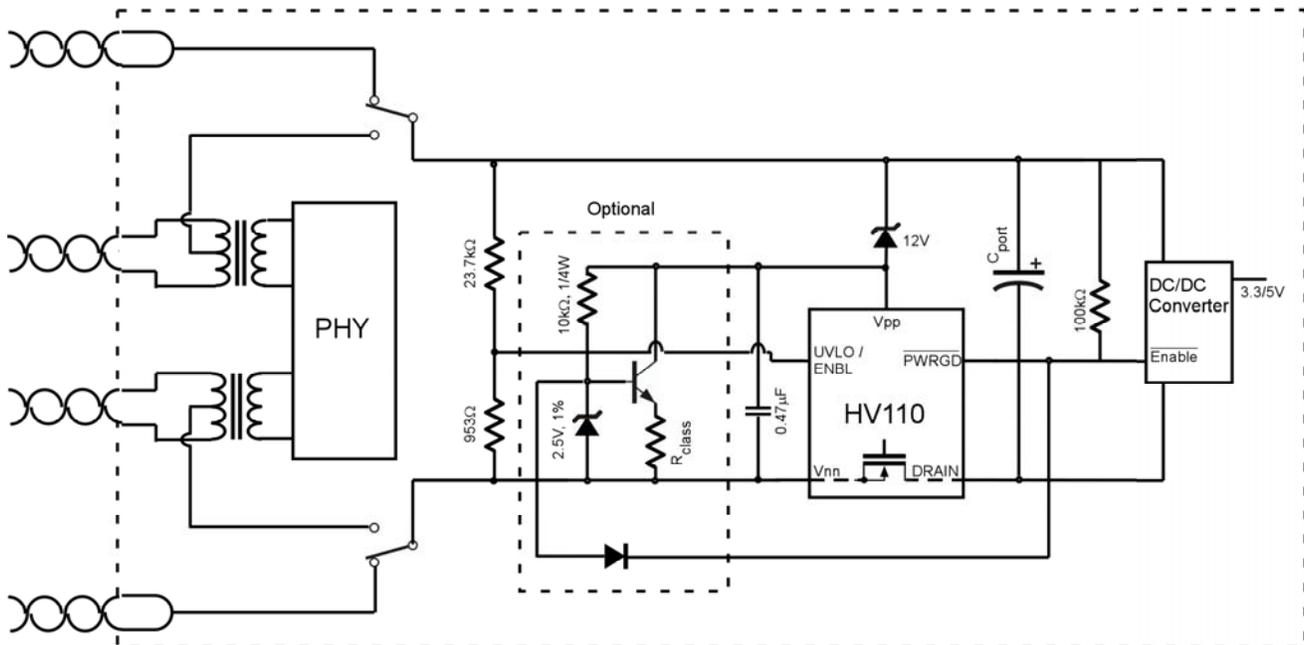

Figure 9. Classification Circuit with HV110
Note that Class 0 default will work for all devices & Classification is only needed in the rare instance when a multi-port switch or router wants to rate the system supply lower than the combined Class 0 port output; a situation which will reduce it's potential classification base. In fact most of the PD devices, like Wireless Access Points, in the market today are Class 0 devices and hence do not require any classification methods. HV110 therefore does not force the use of resistors and wasted silicon area to implement a Classification current source. HV110, however, can be made to be compatible with classification by utilizing low cost circuitry as shown in Figure 9.
- ❑ Classification can be easily implemented, as shown in Figure 9.
Figure 9 above shows the schematic for a typical classification scheme used with HV110. The PSE identifies the Class of the PD, by measuring the current flowing into R_{class} during the Classification Period.